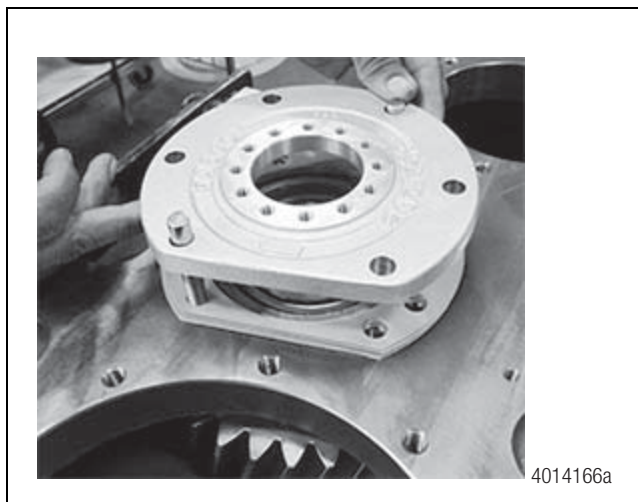

Figure 5.16
- Remove six cap screws securing the intermediate shaft cap. Remove cap. Figure 5.16.